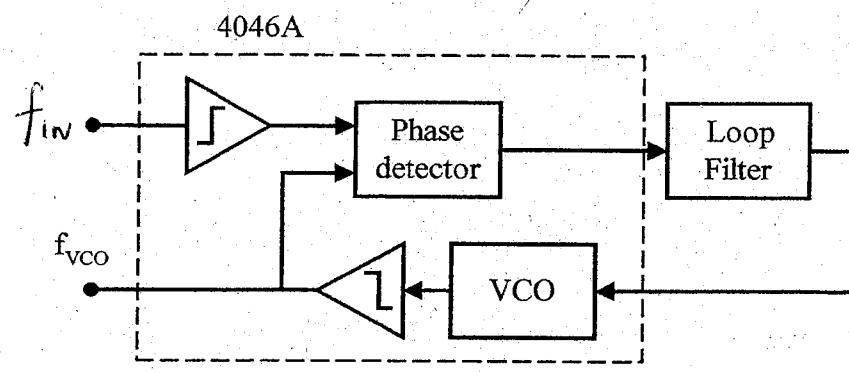

Figure 6a
6. (a) *Figure 6a* shows the block diagram of a phase-locked loop (PLL), which is implemented using a commercial IC (the 4046A PLL plus VCO) with an external loop filter. Derive an expression for the (small-signal) closed loop transfer function of this PLL, given that a simple first order lowpass filter is used. Given that the type 1 phase detector is to be used, and with reference to the 4046A data sheet extracts (*Figures 6b, 6c*), calculate appropriate values for the following components (you may assume $V_{CC}=5$ V, VCO gain $K_V = \frac{4\pi f_L}{V_{CC}}$ rad s⁻¹ V⁻¹, phase detector gain $K_D = \frac{V_{CC}}{\pi}$ V r⁻¹):